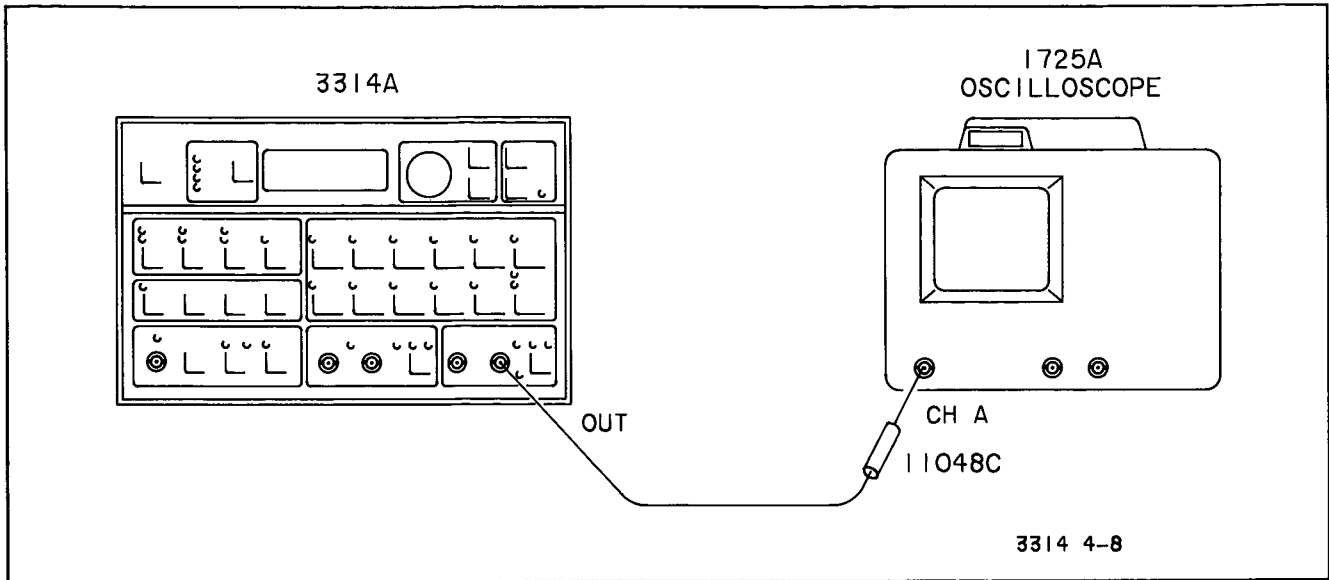

Figure 4-8. Square Wave Rise Time and Overshoot
D. Connect the 3314A to the Oscilloscope as shown in Figure 4-8.